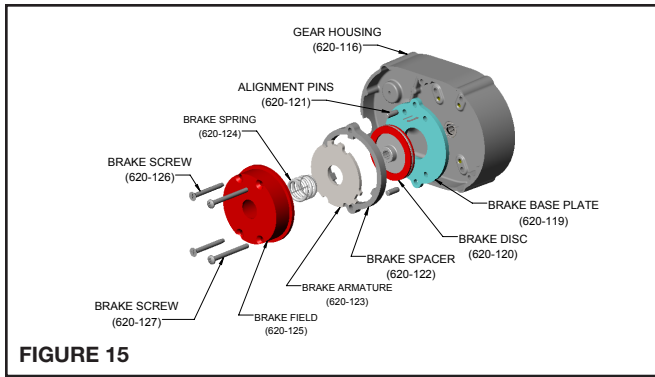

FIGURE 15
1. Refer to Figure 15 and disassemble the brake. Depress and hold the field assembly (125) while removing the four brake screws (126 & 127). The field assembly is under spring pressure and will spring-out if not held. Examine the base plate (119), brake disc (120) and armature (123) for excessive wear, scoring or warpage. Make sure the brake disc is not glazed, the coil firmly fixed in the field (125) and the brake spring (124) is not damaged. Worn, scored, warped, glazed or damaged parts should be replaced before proceeding.
2. Refer to Figure 15 and assemble the brake. Depress and hold the field assembly (125), while installing the four brake screws through the brake parts and mount the brake on the gear housing (116). Tighten the four brake screws (126 & 127) to 25 in-lb (2.8 N-m).